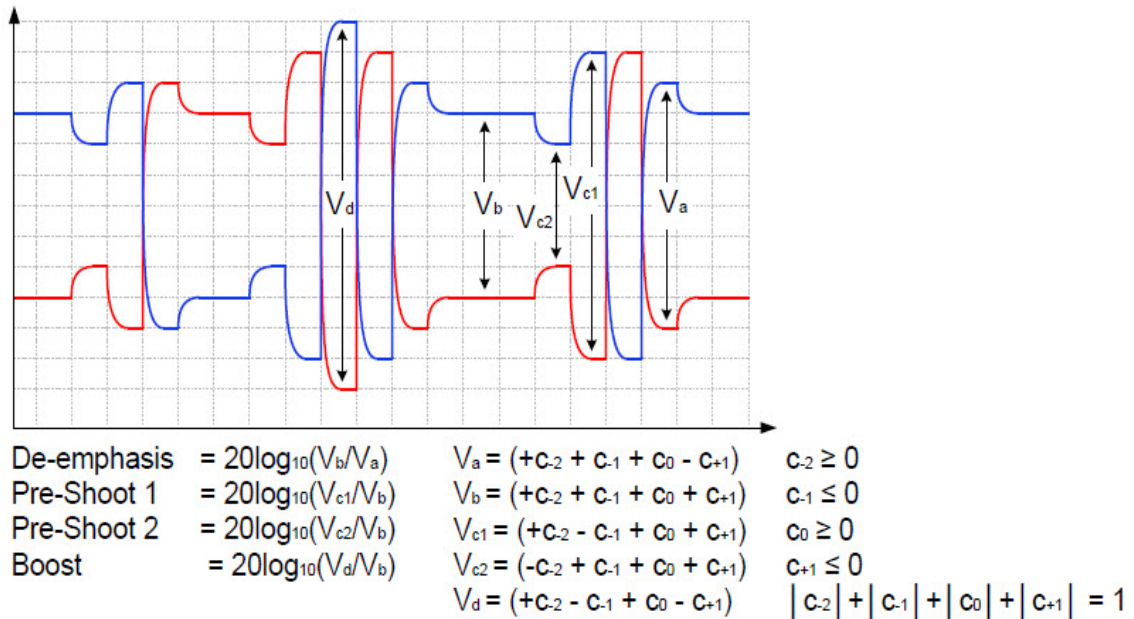

Figure 34 Waveform measurement points for preshoot and de-emphasis
64.0 GT/s PCIe signaling must support the full range of presets given in Table 8-2 (PCIe Base Specification Revision 6.0). Presets are defined in terms of ratios, relating the pre-cursor and post-cursor equalization voltages. The pre-cursor (Vc) is referred to as pre-shoot, while the post-cursor (Vb) is referred to as de-emphasis. This convention permits the specification to retain the existing 2.5 GT/s and 5.0 GT/s definitions for Tx equalization, where only de-emphasis is defined, and it allows preshoot and de-emphasis to be defined such that each is independent of the other. The tolerances in Table 8-1 (PCIe Base Specification Revision 6.0) also apply to 2.5 and 5.0 GT/s de-emphasis. The maximum swing, Vd, is also shown to illustrate that, when both c₊₁ and c₋₁ are nonzero, the swing of Va does not reach the maximum as defined by Vd. The high frequency nature of PCIe signaling makes measurement of single UI pulse heights impractical. Consequently all amplitude measurements are made with low frequency waveforms as shown in Figure 34.
- 13 Computes their equalization voltages by using Matlab, and then calculates equalization ratios by using the formulae stated in Figure 34 (Figure 8-6 of the spec).